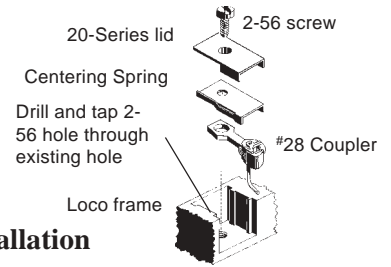

Fig.1
2. Drill and tap a 2-56 hole through existing coupler pocket hole. Assemble #28 Coupler and secure to frame with 2-56 screw. See Fig.1. Widen shell coupler opening equally on each side to fit width of 20-Series Box.